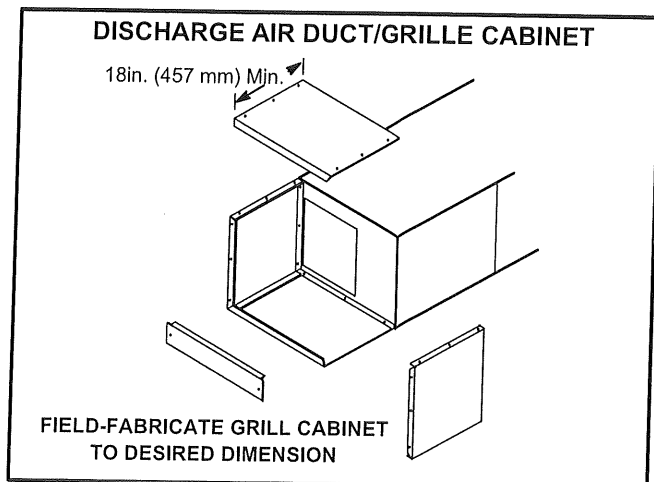

FIGURE 22
A field-fabricated and installed discharge air duct and grille cabinet is suitable for use with the G51MP heater. See figure 22. Keep the following items in mind when constructing the cabinet.
- 1 - Outer dimensions of cabinet should match those of the unit heater, so the duct/grille cabinet installs flush with the unit heater cabinet. See figure 22.